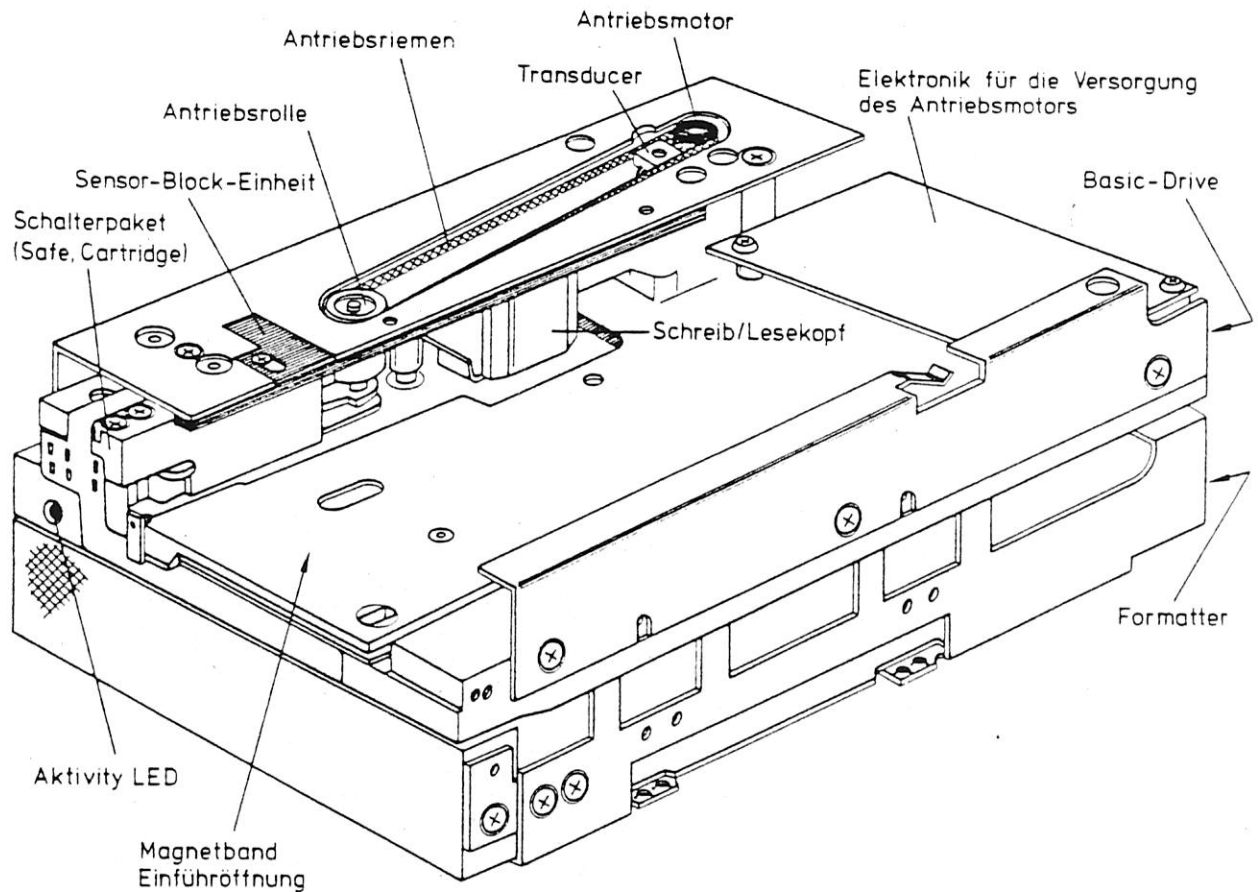

Fig. 5.1 Streamer-Drive
- "Safe" and "Cartridge In" Switches (Fig. 5.1)
- Activity LED (Fig. 5.1)